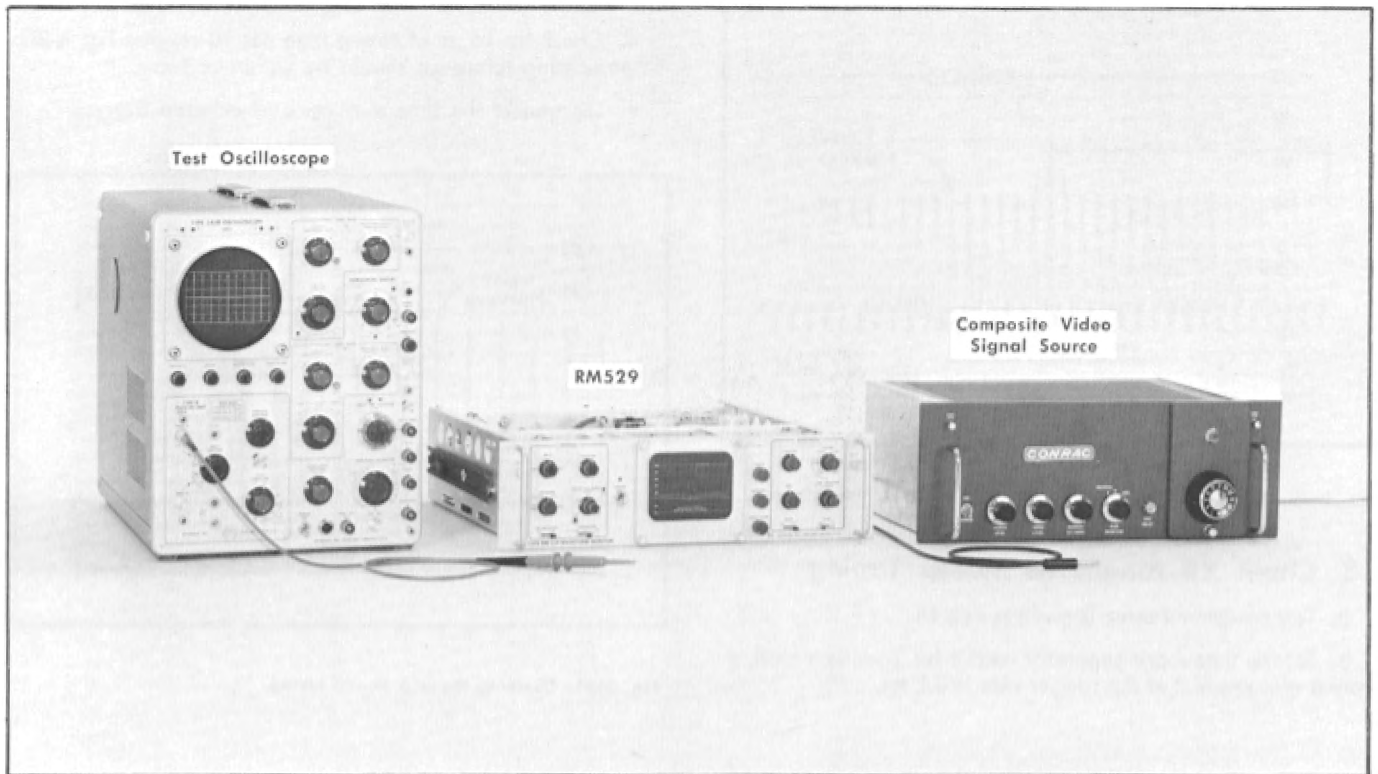

Fig. 6-22. Test equipment required for steps 19 through 21.
19. Adjust FIELD 1 SYNC (R360) ❶
- a. Test equipment setup is shown in Fig. 6-22.